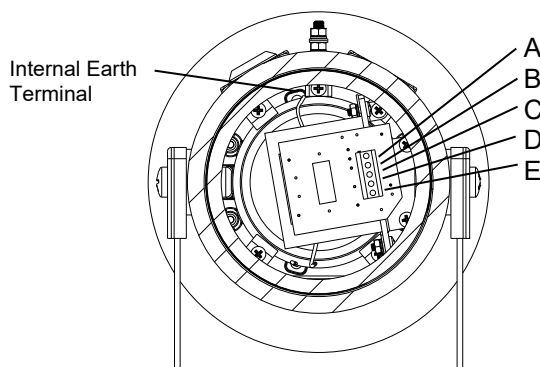
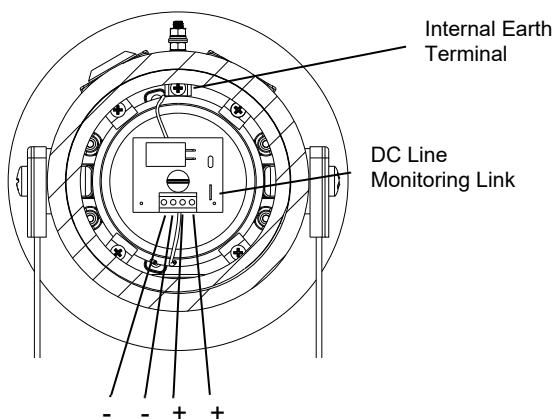

Fig. 3 Line in Terminals
Fig. 4 Low Impedance Terminals
- Fit an M20x1.5 suitably certified cable gland or 1/2" NPT conduit into the corresponding entry in the enclosure and connect the field wiring to the appropriate loudspeaker terminals as shown in section 6 / Fig 3 (70V Line In) or section 7 / Fig 4 (Low Impedance) of this manual. The
D1xL2 and D1xL1 8 ohm and 16 ohm low impedance loudspeakers have dual input terminals on the PCB assembly for input and output wiring. A cable of up to 4.0mm² can be connected to each terminal. If DC line monitoring is used cut the link on the board (see Fig. 4).
Internal earth connections should be made to the internal Earth terminal (see Fig. 3 and 4). It should be fitted to the internal earth point using a ring crimp terminal to secure the earth conductor.
On low impedance units the end of line resistor used must have a minimum resistance value of 2k ohms and a minimum wattage of 0.5 watts or a minimum resistance value of 500 ohms and a minimum wattage of 2 watts. On the low impedance units care must be taken with the polarity of the monitoring voltage. If an end of line resistor is fitted to a unit the links on the printed circuit boards of all loudspeakers in the line must be cut for the dc blocking capacitors to be in circuit in order to dc monitor the line (see Fig 4).